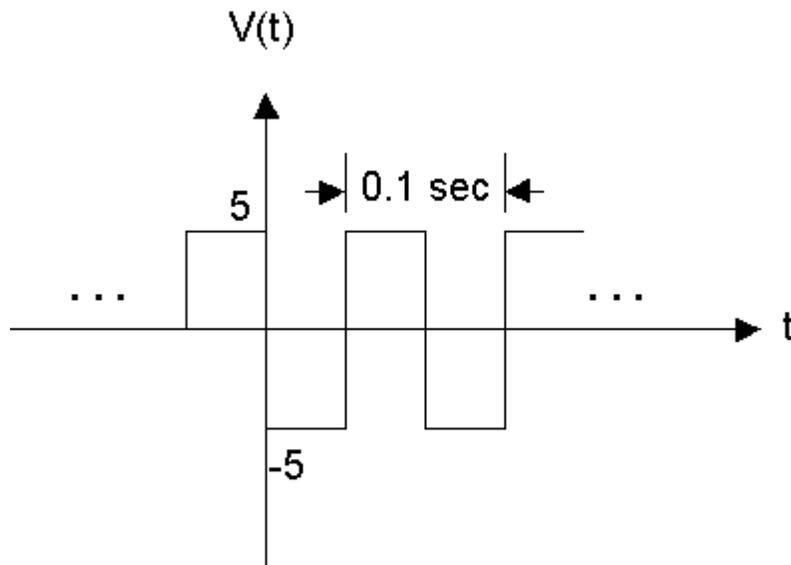
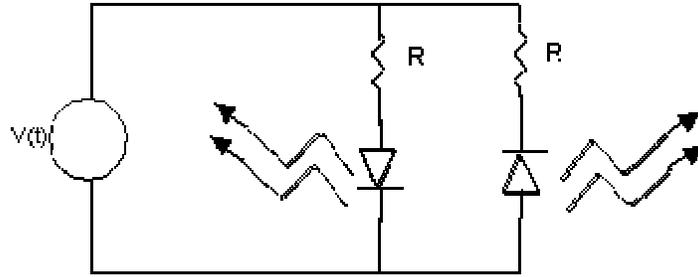

Figure 7. Output from the Tektronix signal generator.
Figure 8. Alternately blinking LED circuit.
11. Configure the Tektronix generator to produce a 10 Hz square wave with ± 5 volt (10 V peak-to-peak) amplitude at the Hi-level output terminals, as in Figure 7. Verify the voltage level on the oscilloscope. Use this signal to drive the circuit shown in Figure 8. Change the square-wave frequency gradually from 100Hz to 0.5Hz. Change the waveform from square to triangle and sinewave shapes. Comment on your results. In particular, make a little table in your notebook and write down, for each of the three types of waveforms, what is the fastest frequency at which you can still see the LED's blink on and off, and whether they appear to stay on or off when you exceed that frequency.
>>When you get the circuit in Figure 8 working, get the lab instructor or a TA to sign your lab book under your diagram of the circuit to indicate that it worked.<<